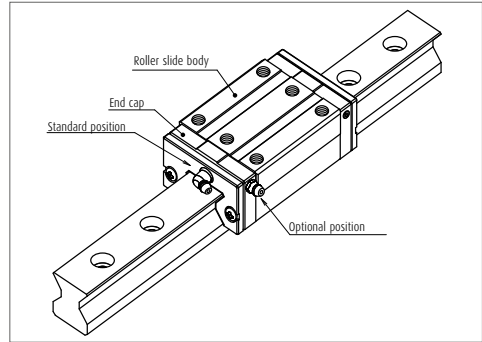

Fig. 12 Mounting position of lubrication accessories
(1) Mounting position of lubrication accessories
- ▶ The standard position of grease fittings and tube fittings is the end face of roller slide. We can mount them on a side of end cap for an option. (Fig. 12) Please consult NSK for installation of grease or tube fittings to the roller slide body or the side of end cap.